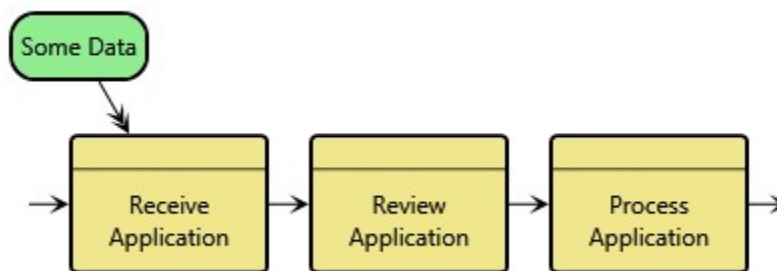

Figure 36 Second Function Decomposed
**Functions** may be decomposed into lower-level models. To illustrate this point, we have added application-processing functions as shown in Figure 36 as the decomposition of Second Function.